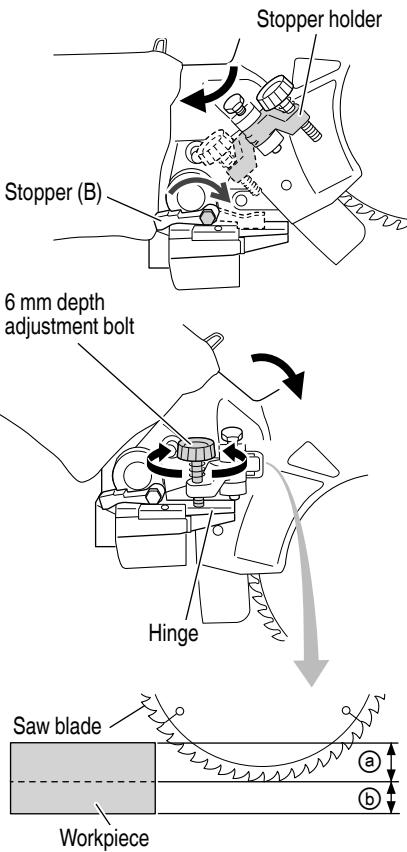

Fig. 50
Grooves in the workpiece can be cut by adjusting the 6 mm depth adjustment bolt (Fig. 50).
- (1) Turn the stopper holder on the direction shown in Fig. 50.
- (2) Adjust to the desired cutting depth by setting the distance between the saw blade and the surface of the base (Fig. 50).